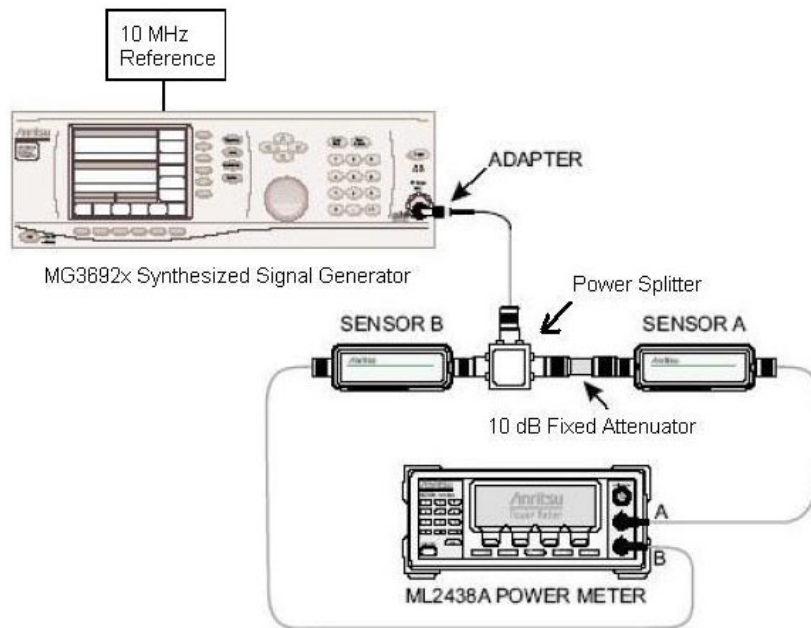

Figure 2-2. Test Setup Components Characterization
3. Connect the model 1870A power splitter to the MG3692x output and sensor B to one of the power splitter outputs (Refer to Figure 2-2).
2. Connect the equipment as shown in Figure 2-2.